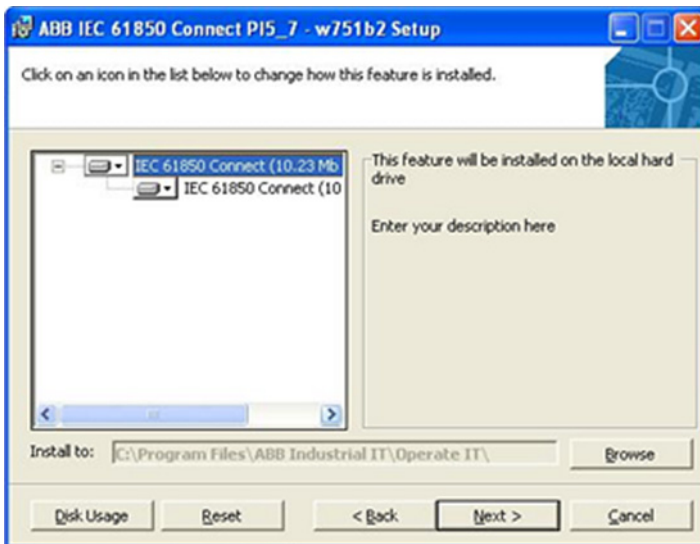

Figure 47. Select Features Dialog Box (Retain Default Root Features)
- a. **Select Features dialog box (Figure 47):** Retain the default root feature selection. Retain the default path in the Install to text box (recommended), or click **Browse** and select the desired install folder.